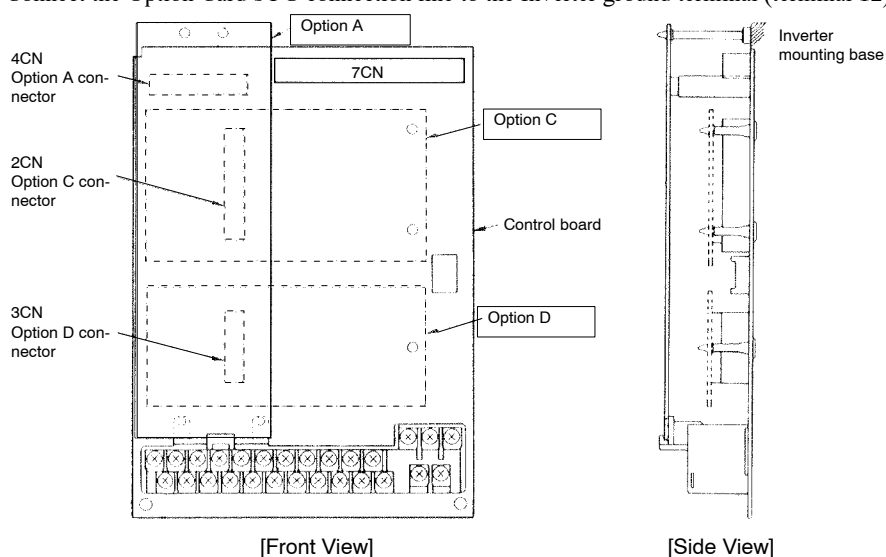

Fig 7.32 Installation Locations for Option Cards
3. Check the Option Card's installation location (A, C, or D). (See Figure 7.32.)